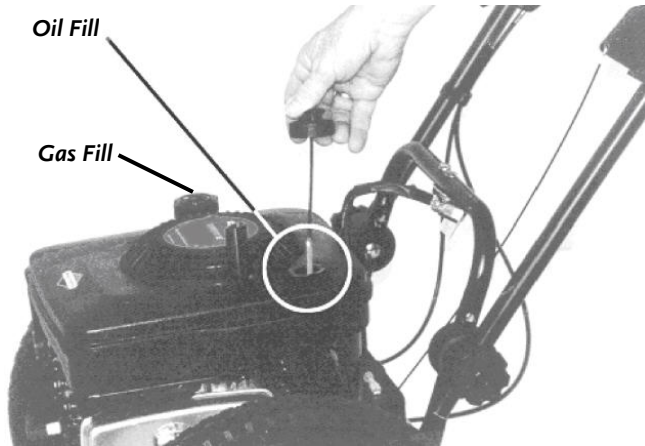

Figure 2
1. Place the machine on a level surface and initially add 1/2 of the SAE 30 high detergent oil recommended by the Engine Manufacturer and wait one minute for the oil to settle (**Figure 2** on page 13).
2. Check the Dipstick and continue adding a few ounces of oil at a time, rechecking the Dipstick until the oil reaches the fill mark. Be careful not to overfill (**Figure 2** on page 13).
1. Check the oil level every time you use the DR TRIMMER/MOWER (*Figure 2* on page 13).
2. Check the gas level (*Figure 2* on page 13).